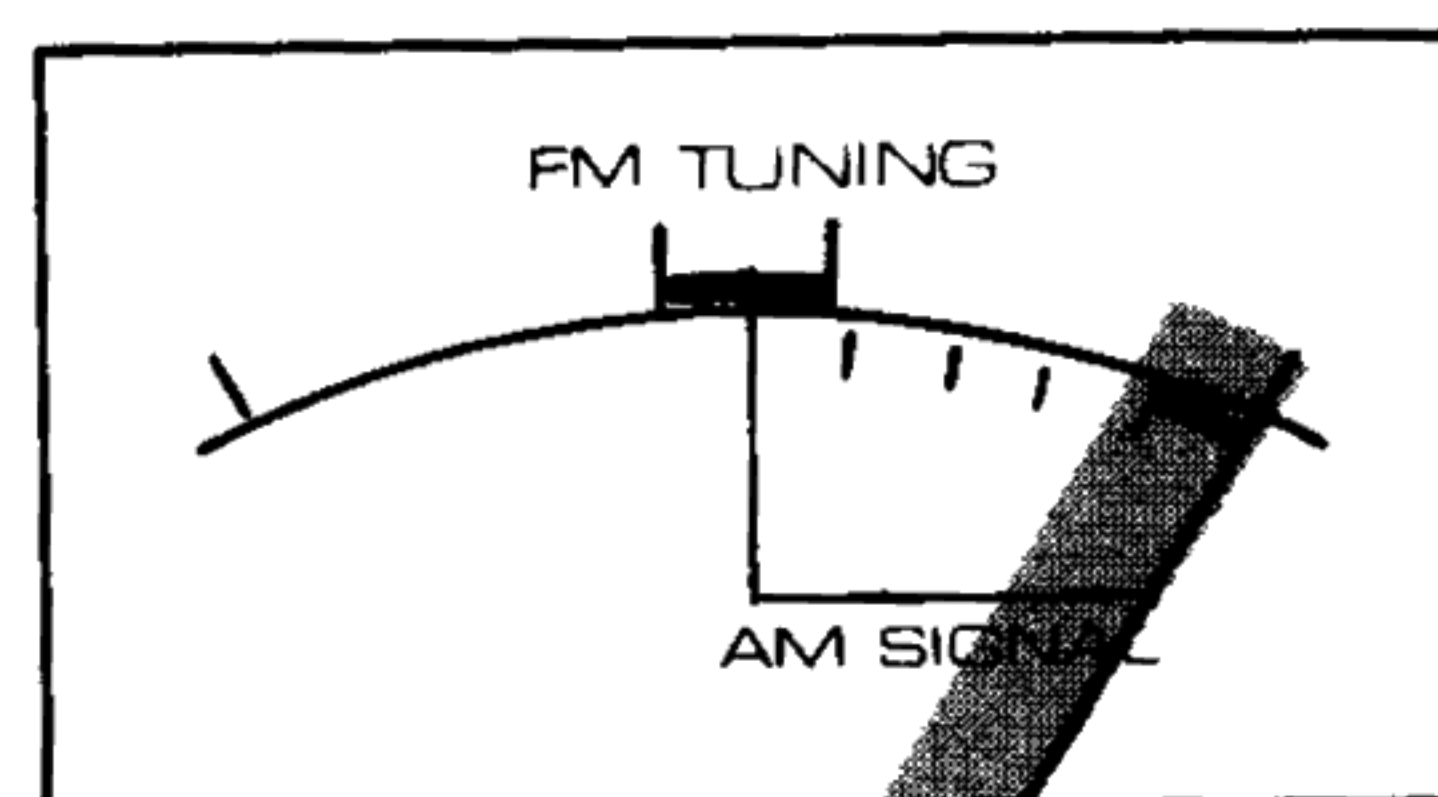

Fig. 10
3. Turn the tuning knob to select a station. The best reception is obtained when the tuning meter pointer deflects to the extreme right, as indicated in Fig. 10.